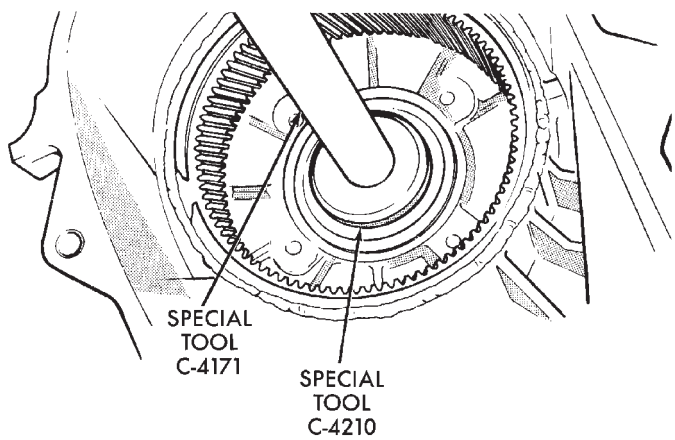

Fig. 49 Input Shaft Bearing Removal
(9) Using Remover C-4210 and Handle C-4171, drive input shaft bearing from inside the annulus gear opening in the case. (Fig. 49).
(10) Install locating ring on new bearing.
(11) Position case so forward end is facing upward.
(12) Using Remover C-4210 and Handle C-4171, drive input shaft bearing into case. The bearing